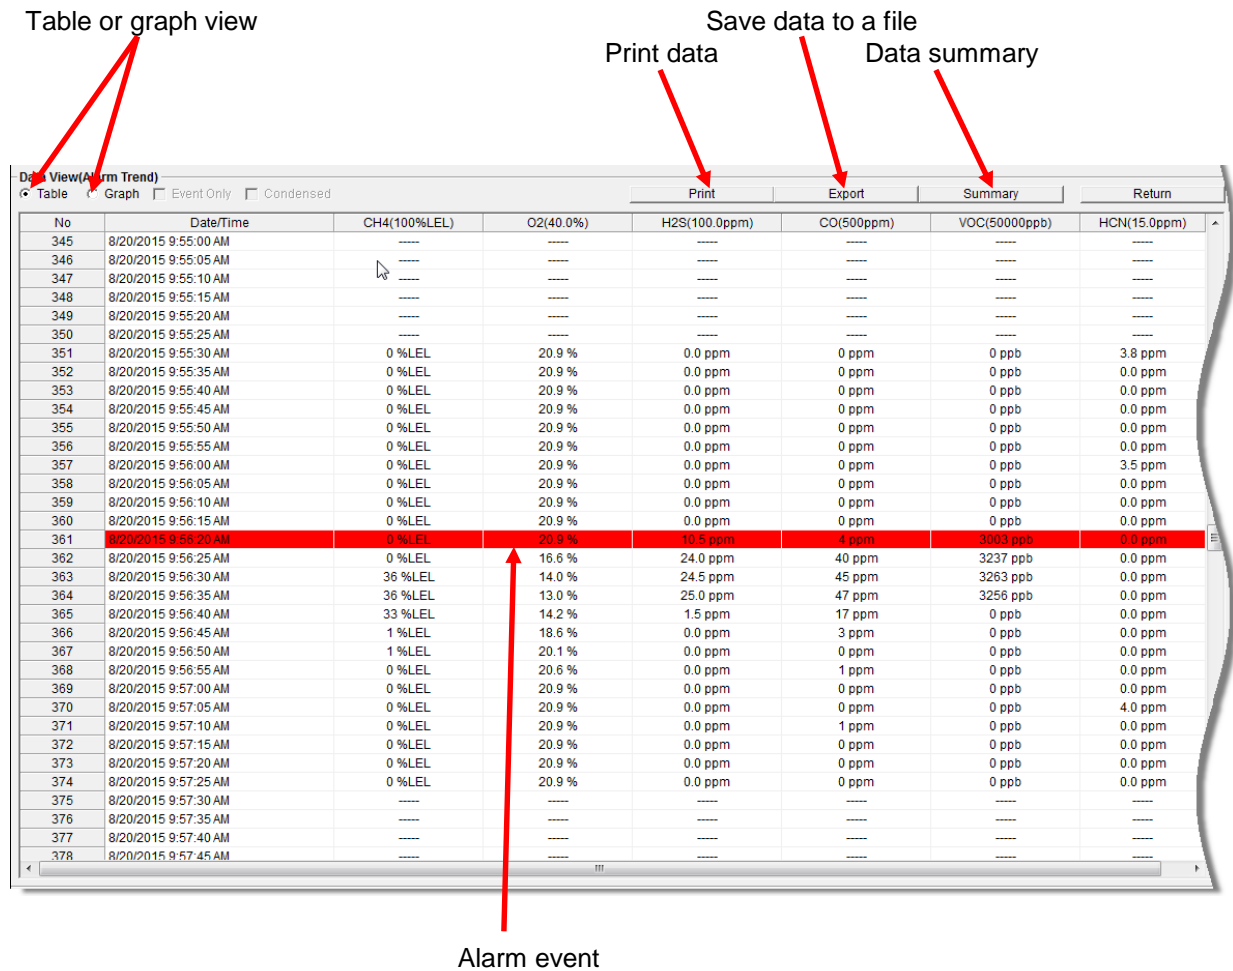

Figure 47: Alarm Trend Data in Table Format
7. Alarm trend data can be viewed in either table or graph format by selecting the **Table** or **Graph** selection buttons. The example below in Figure 47 is in table format.